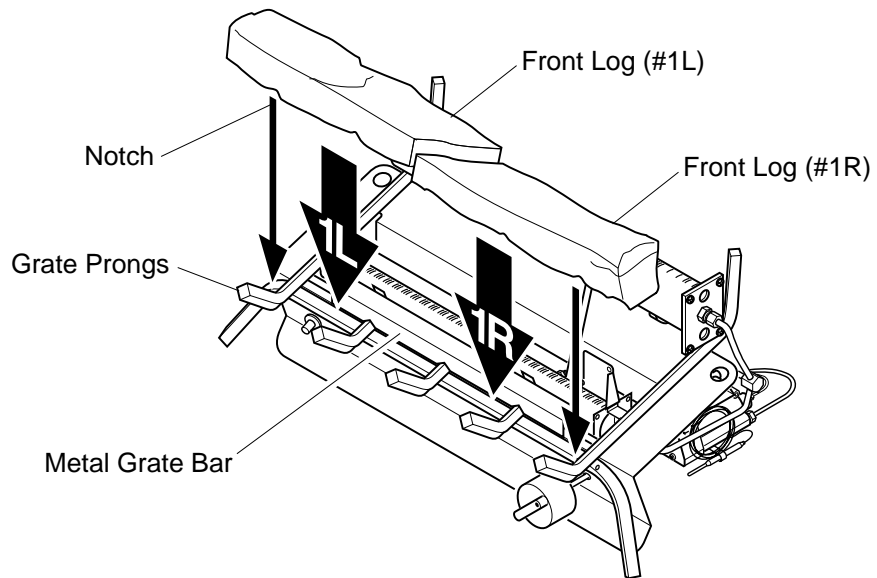

Figure 16 - Installing Front Logs (#1L and #1R)
1. Place front logs (#1L and #1R) on top of the grate. Make sure the notches in the bottom of the logs fit over the grate prongs (see Figure 16). Push back of logs flush with metal grate bar.